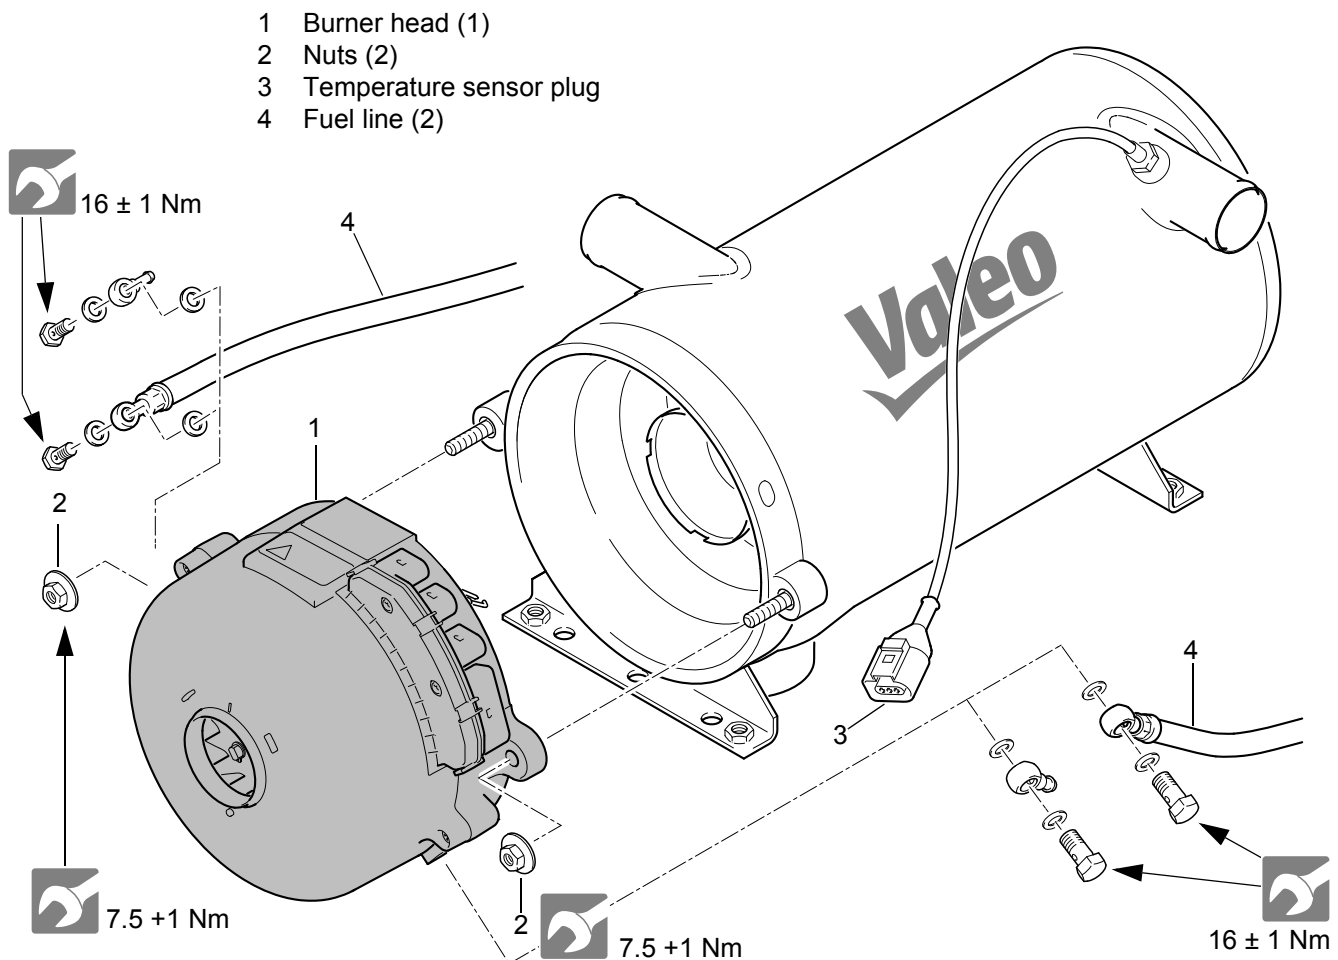

Fig. 801 Burner head removal and installation
6. Unscrew fuel lines (4, Fig. 801) and seal with blank plugs.
7. Unscrew nuts (2).
8. Remove burner head (1).
1. Bring burner head (1, Fig. 801) in assembly position and ensure center alignment and correct fit.
2. Place nuts (2) and alternately tighten them slightly.
3. Tighten nuts (2) with  $7.5 \text{ Nm} + 1 \text{ Nm}$ .
6. Connect the temperature sensor plug (T).
7. Connect the plug for the circulating pump (P).
8. Connect the plug for power supply/control (C).
The two combination nuts M8, connecting the burner head and the heat exchanger, must be tightened to torque, see Fig. 801, each and additional are to be secured using thread lock.
2. Disconnect the temperature sensor plug (3, Fig. 801).
2. Tighten the temperature sensor (1).
3. Connect the temperature sensor plug (3, Fig. 801).